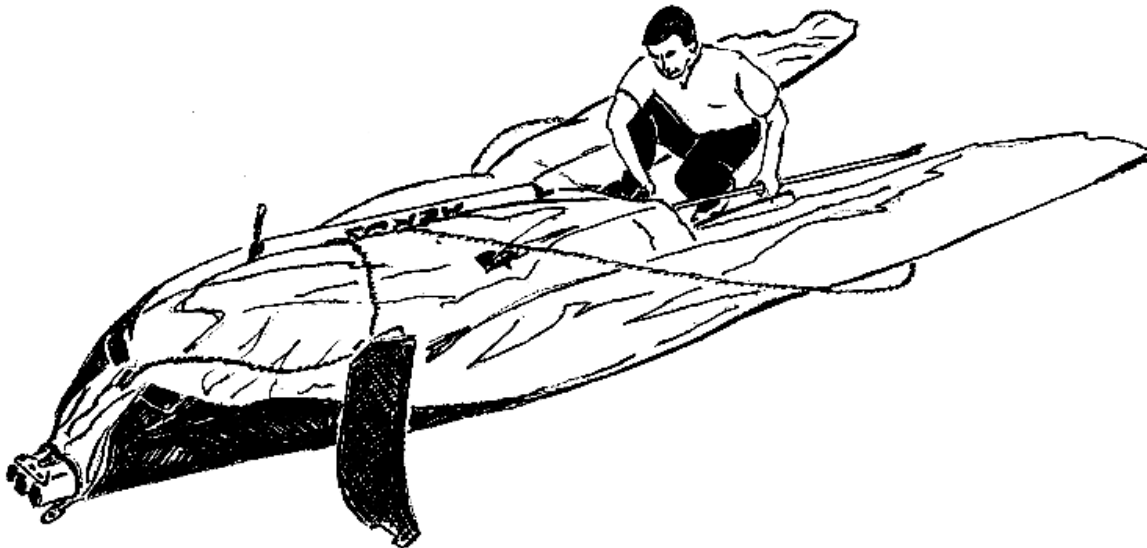

Fig. 5
2.1.7. If the keel and #1 battens don't installed in the sail, it's necessary to make this. Remove the battens from the batten bag and install the #1 battens to the wing. Next step is to install the keel battens (Fig. 5 and 6)